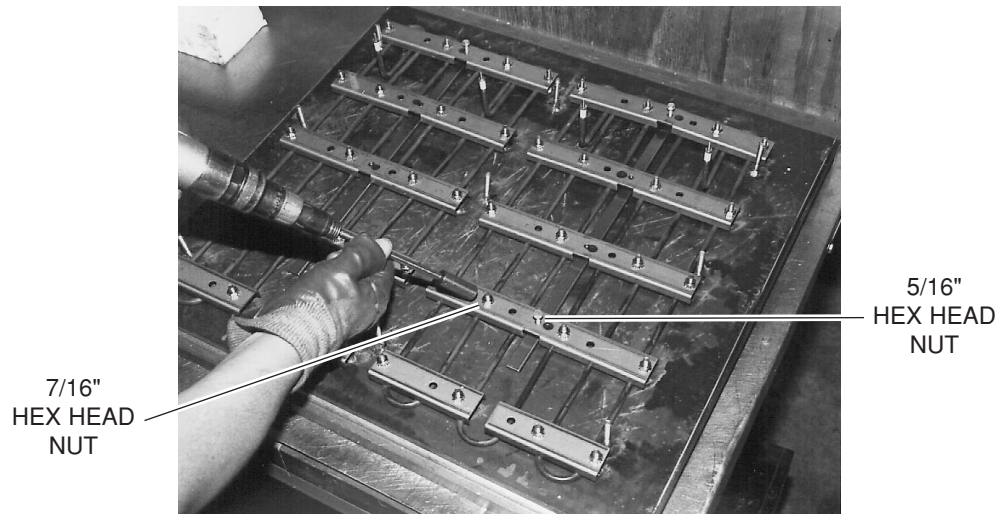

Fig. 34
3. To lift the element from the griddle assembly, use a $\frac{7}{16}$ " and a $\frac{5}{16}$ " socket to disengage the element holding clamps from the griddle plate. (Fig. 34)